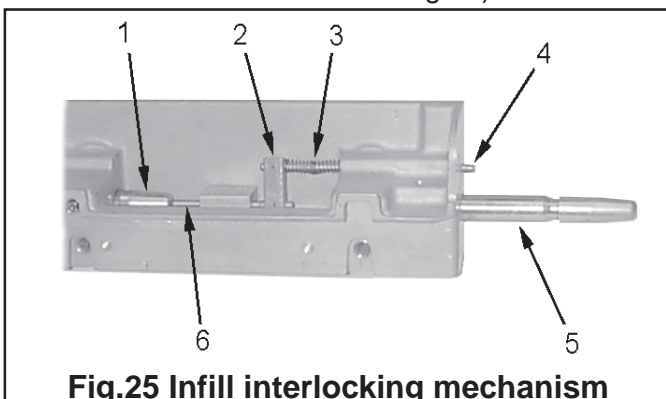

Fig.25 Infill interlocking mechanism
6.48 To remove and replace the interlocking mechanism in the infill section, refer to Fig. 25 and proceed as follows:
- i Release each interlock rod (4 and 6) from the connecting block (2) by releasing the grub screws in connecting block (2).
- ii Replace any worn parts and reassemble as shown in Fig. 25, with 5mm of rod 6 and 4mm of rod 4, protruding through the connecting block (2) and springs (3) correctly positioned. Finally adjust the mechanism by inserting tool No.1752 into the guide pin hole and pushing fully home, rod (4) should protrude 6.5mm out of the infill casting.
- iii Lubricate all moving parts with a smear of light machine oil and check operation, (i.e. a head or leg section guide pin (1) should operate the mechanism as shown in Fig.25).